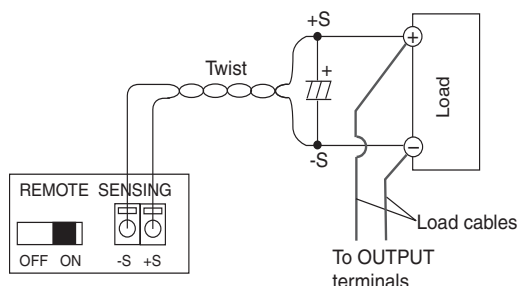

Fig. 4-3 Connection of the sensing cable
2. Connect the cables as shown in Fig. 4-3